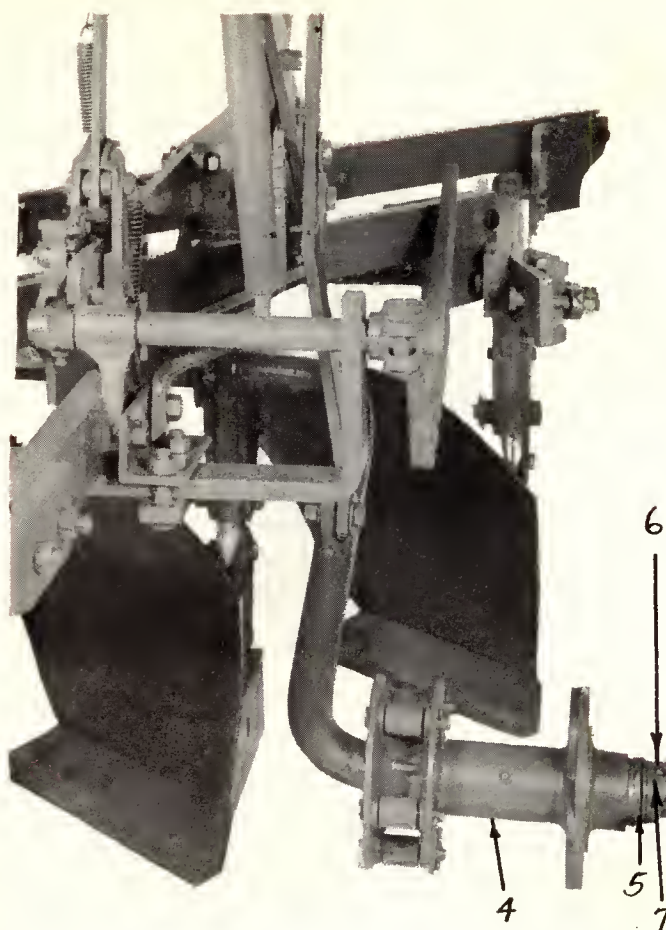

FIGURE 15A
Remove hub cap and slide the hub assembly (4) Figure 15A on the axle and over the wear washer and step washer.